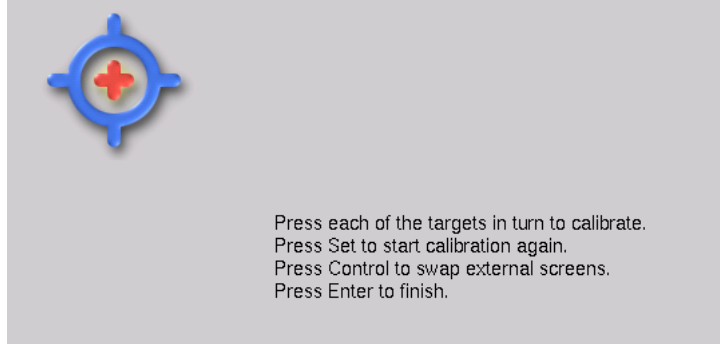

Figure 6.4. The Calibration Screen
2. A target will appear sequentially in each corner, which you should touch in turn; see *Figure 6.4*, “*The Calibration Screen*”. When you have calibrated all positions, press Enter to finish.